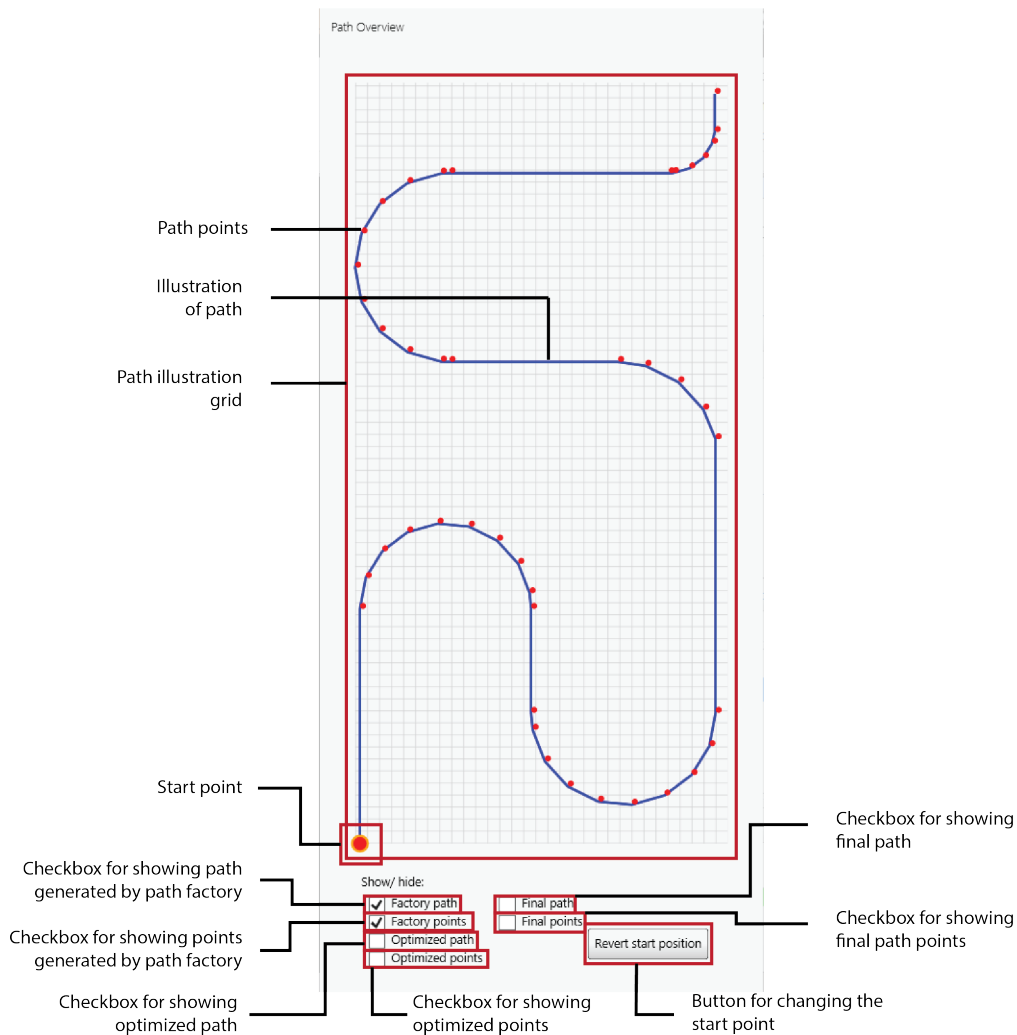

Figure A.5: Overview of the path popup view, and its different elements.
2. Push the *Run Path Factory* button, to run path generation. When the progress bar is finished, go to (3).
5. Revert the start point if needed using the *Revert Start Point* button. (See fig: A.5)